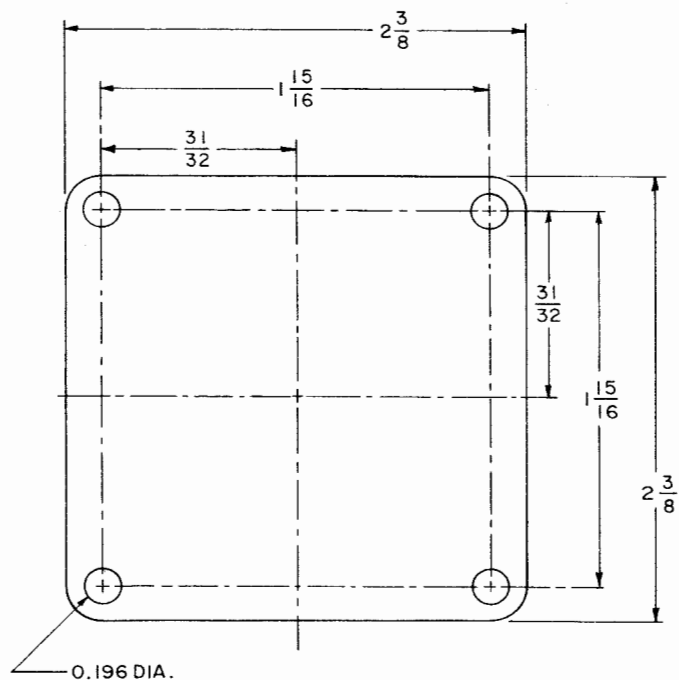

Figure 2-2. RF Tuner Shockmount Template
Step 6. Make a template, using figure 2-2 as a guide.